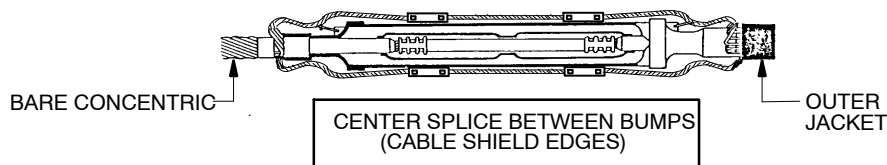

FIGURE 3
10. Twist the strands together and jumper across the splice using cable neutral wires and retained neutral wires. For single phase cables connect each bundle using 2 sleeves and the "P" or "J" groove of the XPJ Nicopress tool as shown on sleeve. (See Figure 3.) For three phase cables connect the bundle using 1 sleeve. Make sure that the neutral wires are against the splice body.